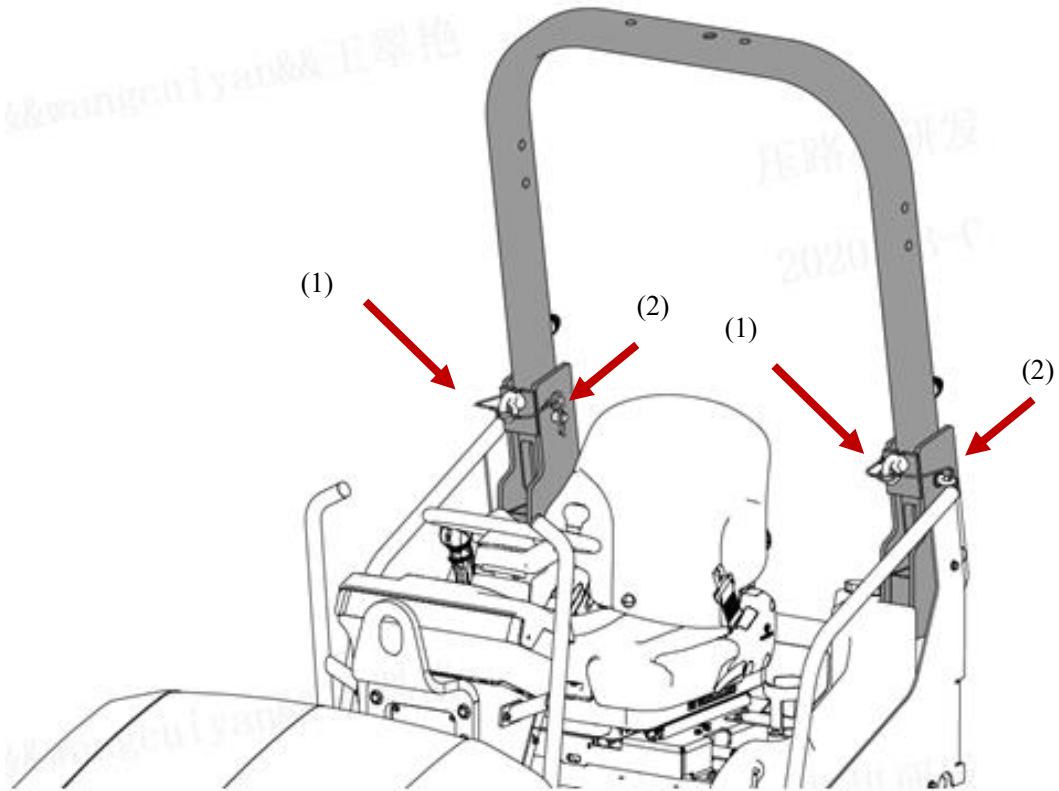
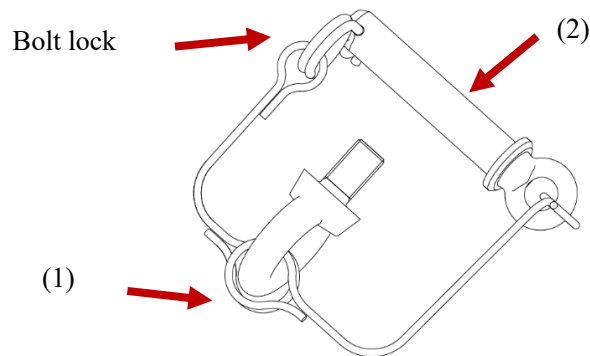

Fig. 4-9: the ROPS must be fixed vertically in all operation processes
Fig. 4-10: ROPS Fixed Pin
- Unscrew the eye bolt (1) and dismantle the fixed pin (2) (see the Fig. 4-9).
- Re-insert into the fixed pin (2) to fix the ROPS in vertical position.
- Insert it through the bolt to fix the fixed pin (2) (see the Fig. 4-10).
- Screw the eye bolt (1) to ROPS.